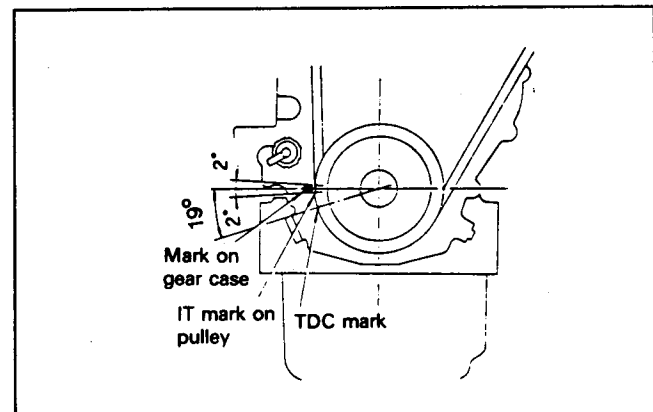

Figure 34
4. Slowly rotate the crankshaft counterclockwise from the flywheel end (normal rotation) until the IT marks (injection timing marks) on the crankshaft pulley are approximately 1/2 in. (21 mm) from alignment with the stationary pointer on the engine gear case (Fig. 34). Make sure the number one cylinder compression stroke is approaching by checking the push rods. Both push rods on the number one cylinder should be loose and the valves closed. If either push rod is tight, rotate the engine crankshaft one full revolution and inspect the push rods again.
7. Standard injection timing can be confirmed by the IT marks on the crankshaft pulley and the stationary pointer on the crankcase (Fig. 34).